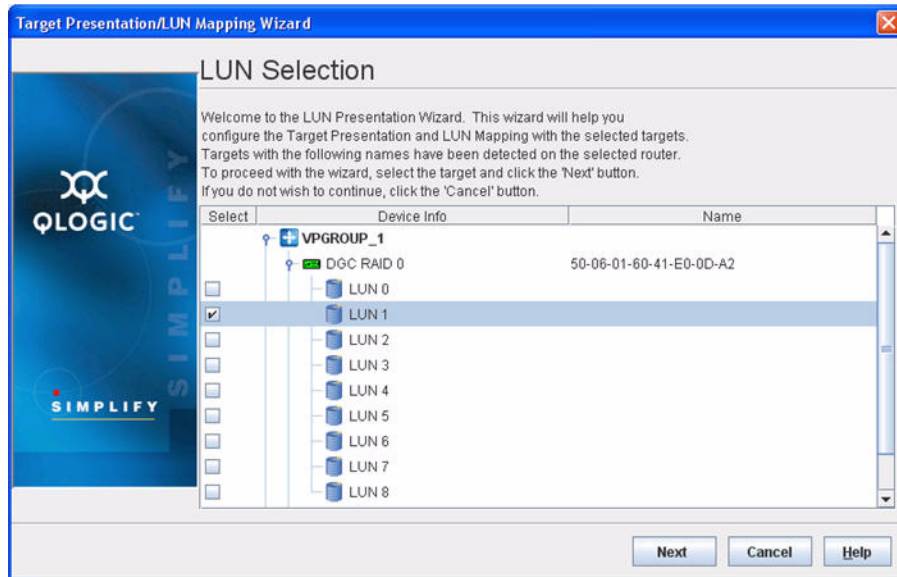

**Figure 4-15 Target Presentation/LUN Mapping Wizard - LUN Selection**
3. Select LUN1 as shown in Figure 4-15, then click **Next**.